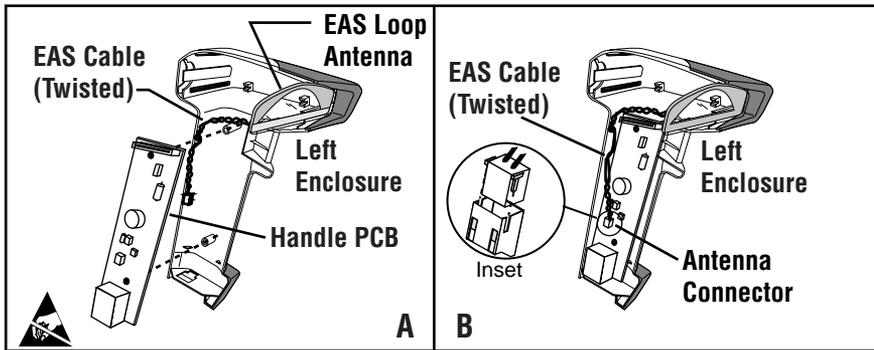

Figure 10. Installing the Handle PCB
Installing the EAS Option requires replacing the Handle PCB with a new one. Follow these procedures and refer to Figure 10 A and 10 B to install the new Handle PCB.
1. Align the two holes in the PCB Handle with the two screw pillars that extend from the Left Enclosure. Place the new Handle PCB on to the enclosure as shown in Figure 10 A.
3. Verify that the twisted wire leads from the EAS Antenna are not trapped beneath the Handle PCB. The wire should lay in the enclosure adjacent to the Handle PCB as shown in Figure 10 B.
4. Plug the Antenna Connector into the Antenna plug on the Handle PCB as shown in the inset of Figure 10 B. Make sure the tabs on the connector slide into the slots on the sides of the plug.